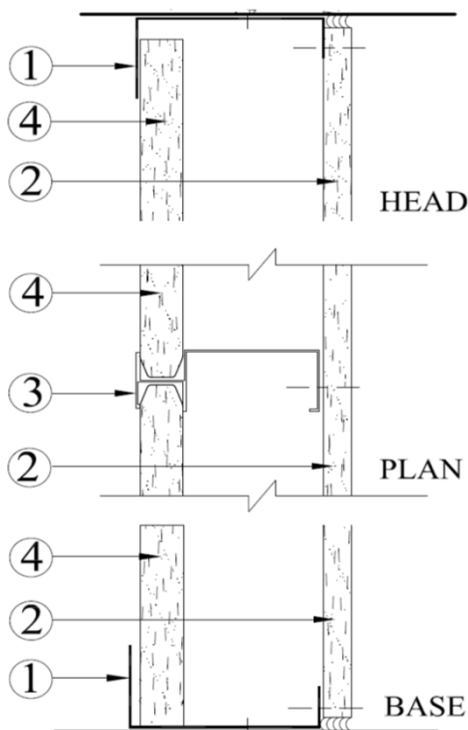

Figure 1 - One Hour Cavity Shaft Wall (Non-Load Bearing)
Sheetrock® Brand Firecode® C Panels- UL Type C have been tested to generate the shaft/stairwell limiting heights for wall assemblies shown in Figures 1, 2, 3, 4, and 5. Panels are available in 1/2-in and 5/8-in thicknesses, 48-in wide and lengths up to 14-ft. Product must be UL/ULC Classified for fire-rated construction (Type C) and must meet the requirements of ASTM C1396.
One-Hour Cavity Shaft Wall (Non-Load Bearing), See Figure 1
1. See Figure 1 for vertical stud installation details within shaft/stair wall.